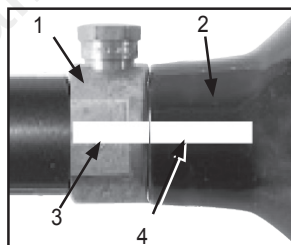

Figure 9: Properly marked Valve and Cylinder
The brass or nickel plated cylinder valve (Figure 9, #1) is intended to be permanently attached to the air or CO2 cylinder (2).
Refer to Figure 9. There have been reported incidents caused by players unknowingly unscrewing the cylinder (2) from the cylinder valve (1). This occurs when the player thinks the entire valve-cylinder assembly is being unscrewed from the air/CO2 adapter of the paintball marker, when in fact he or she is unscrewing the cylinder from the cylinder valve.
To avoid this danger, it is recommended (if your cylinder is not already marked) that you use paint or nail polish to place a mark (3) on the cylinder valve, and place another mark (4) on the cylinder, in line with the #3 mark as shown in Figure 9.
4. Watch the marks on the cylinder and cylinder valve (as shown in Figure 9) as you turn the cylinder approximately $\frac{3}{4}$ turn counterclockwise. This allows the air/CO2 valve pin to close so that no air/CO2 will enter the marker.